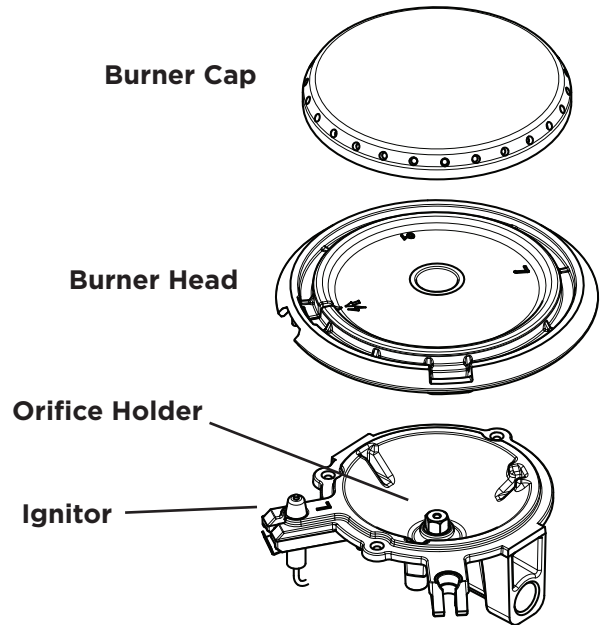

Figure 15: Burner cap, burner head, ignitor, and orifice
1. Remove the burner cap and the burner head (see Figure 15). Clean with hot soapy water and dry thoroughly